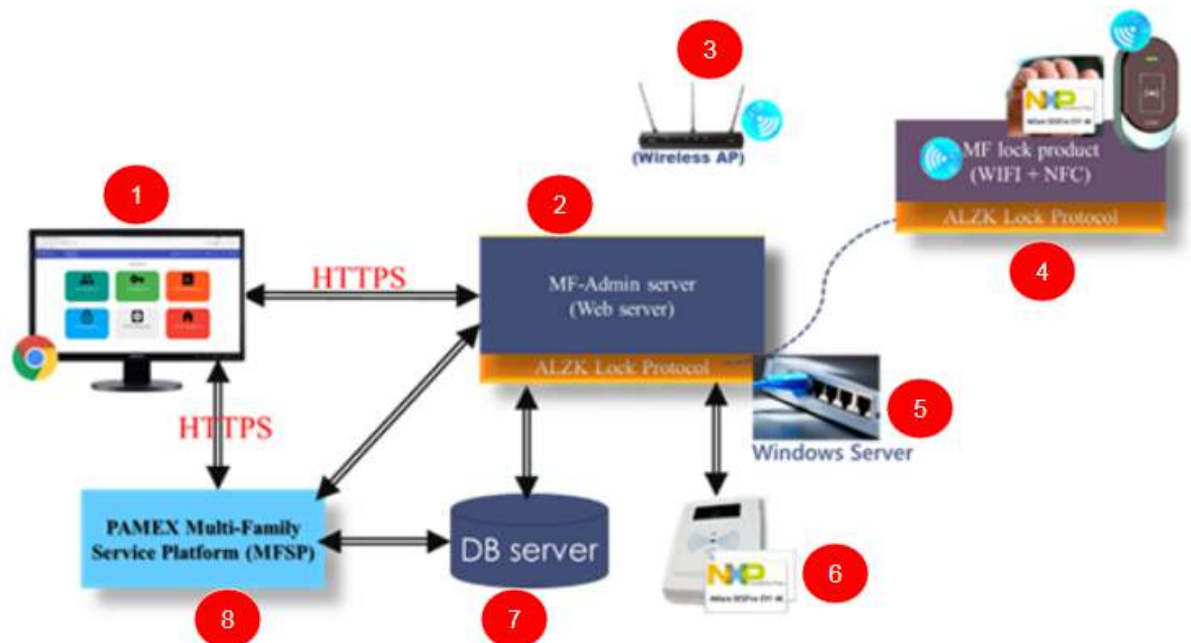

Figure 1 : Pamex Kapture System Architecture Overview
Figure 1 shows the system architecture of Pamex Kapture solution, Below are the brief description of each components :
1. Chrome browser : The user interface to the MF-Admin Server (2). You need a PC with Chrome browser to use MF-Admin. The card reader/writer (No.6 in figure 1) will be connected to this PC using USB. You may also use the windows server (5) as the client PC.
2. MF-Admin Server : An application running on Windows server (5). It provide all the functions to manage the access control of the locks and the cards/fobs.